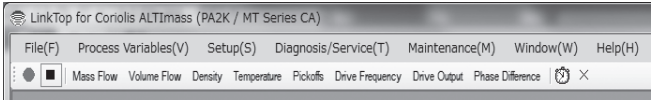

Fig.21
- ① Click "Chart and Recording" in the menu at the top of the screen, and then click "Active" to display the toolbar as shown in Figure 21 at the top of the screen.